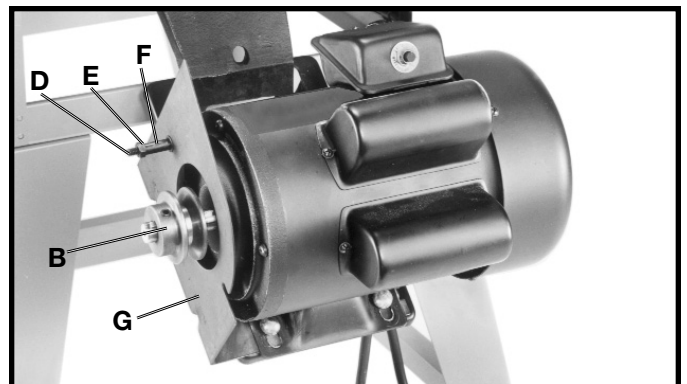
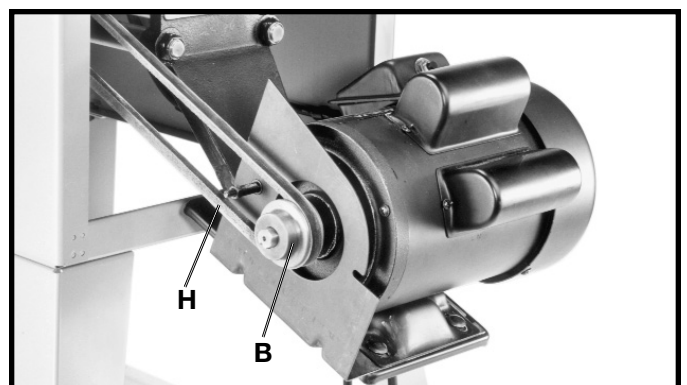
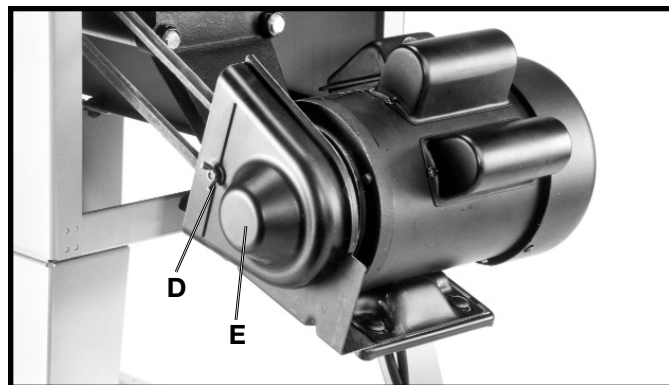

Fig. 23
Fig. 24
Fig. 26
6. Position belt and pulley guard bracket (G) Fig. 23, so the motor pulley (B) is centered and through the hole in the belt and pulley guard bracket (G), as shown in Fig. 24. Tighten the four hex nuts that fasten the motor to the motor mounting plate.
7. Using a straight edge, align the motor pulley with the arbor pulley. If necessary, adjust the motor pulley (B) Fig. 23, in or out on the motor shaft.
8. Lift up on the motor and assemble the drive belt (H) Fig. 24, to the arbor pulley and motor pulley (B). The weight of the motor will provide the correct belt tension.
10. Place a 1/4" flat washer onto the 1/4-20x1-1/2" hex head screw (D) Fig. 23. Place the spacer (F) Fig. 23, onto the 1/4-20x1-1/2" hex head screw (D) Fig. 23, and thread a 1/4-20 hex nut (E) Fig. 23, onto the hex head screw.
11. Align the hole in the outer cover (D) Fig. 26, with the 1/4-20x1-1/2" hex head screw (D) Fig. 23. Place the outer cover (E) Fig. 23, onto the hex head screw. Place a 1/4" external tooth lockwasher onto the hex head screw, thread a 1/4-20 wing nut onto the hex head screw, and tighten securely. **CAUTION** Make certain the outer cover does not interfere with the drive belt and the motor pulley.